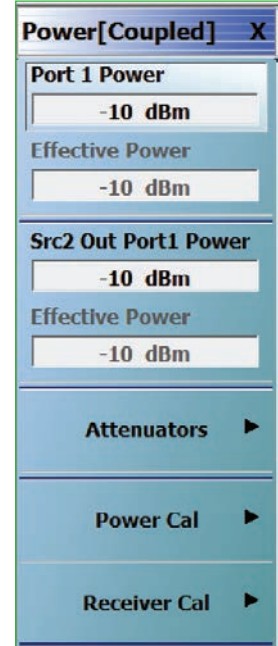

Figure 8: Power Calibration Menu
- 4.1. On the VectorStar, Go to the Power menu and verify the power levels for both sources are set for -10 dBm as shown in Figure 8. Note that one of the selections is "Src2 Out Port 1". This is automatically configured when the IMDView is set up.